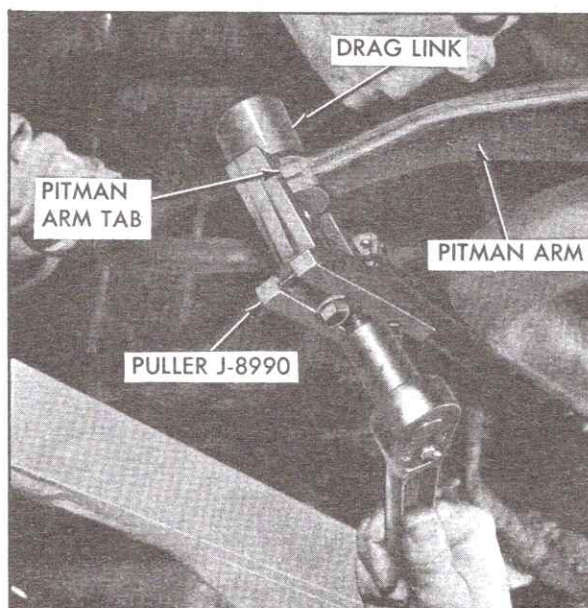

Fig. 9-9 Disconnecting Pitman Arm at Drag Link (Except 693)
1. Remove pitman arm from drag link using Puller Tool, J-8990, Fig. 9-9. Make certain tool is positioned with puller engaging tabs on pitman arm. On 693 disconnect pitman arm from drag link using Steering Linkage Puller, J-22292.